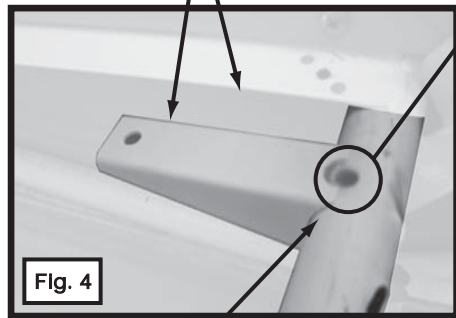

Fig. 4
2. Install & weld rear seat fittings (AF24121-RS, 2 req.) in appropriate location (See Figs. 2 & 3). The holes in the fittings should line up with the existing holes, as seen in Figs. 2 & 3. The seat back may be used as a jig. DO NOT weld the top edge of the fitting. Parts should be TIG welded, in accordance with AC43.13-1B 4-75. Note that depending on the installation, the forward edge of the fittings may need to be notched to provide clearance for the seat back (See Fig. 4). Ensure that the top of the fittings are in line with the baggage floor mounting tab (See Fig. 4). Note that this STC may be installed in either the standard or widebody fuselage.